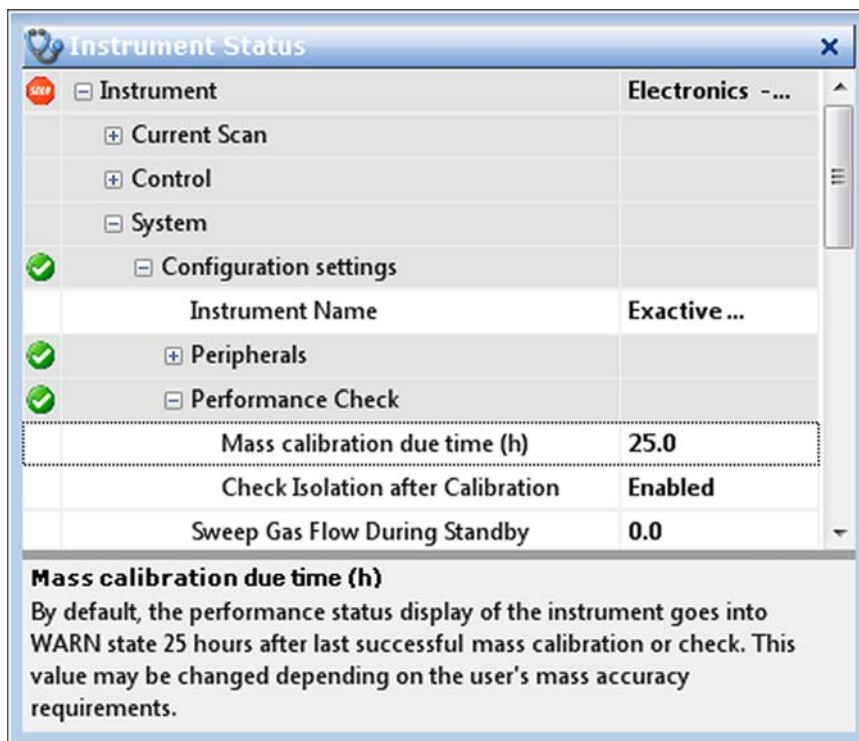

Figure 5-11. Instrument status window—Performance Check node
- In the instrument status window, click **Instrument > System > Configuration settings > Performance Check**. The Mass calibration due time (h) field displays the current validity period of the mass calibration (25 hours, for example). See Figure 5-11.